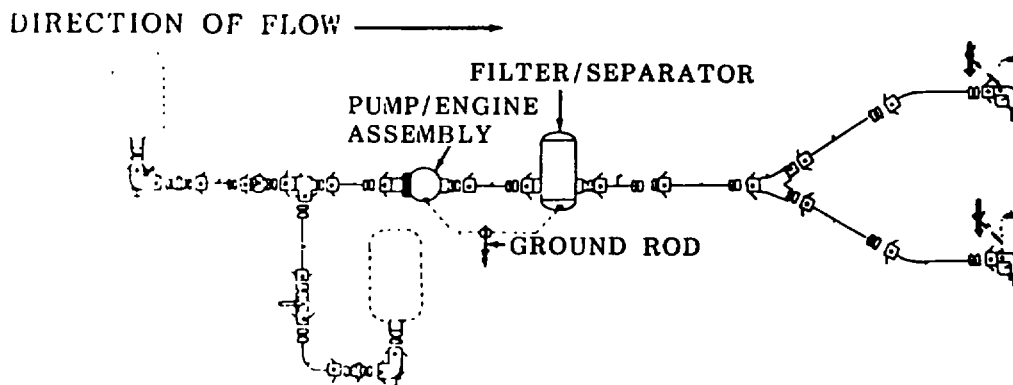

Figure 2-2. Setting Up Refueling Operation.
- (1) Select a site that will provide relatively level terrain to locate the pumping assembly. Clear away dry leaves, grass, and brush from the ground where the pumping assembly will be located.
- (2) Position the pumping assembly and filter/separator assemblies for desired fueling operation.
- (3) Refer to figures 2-2 and 2-3 for setting up a refueling operation.